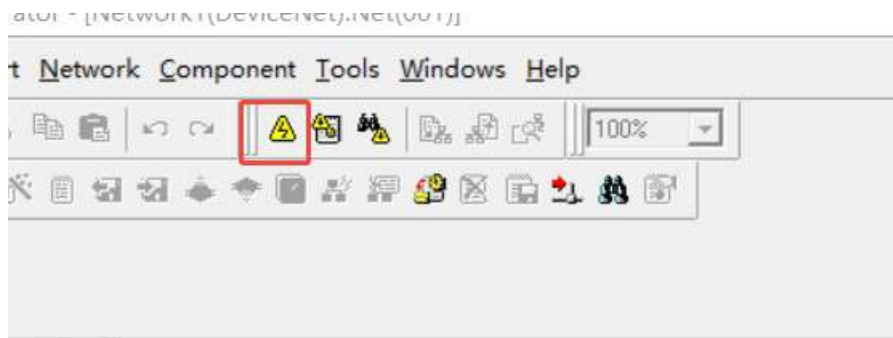

Figure 5-5-5 Automatic scanning
Automatic scanning, click the 'Online Work' button, double-click the DeviceNet [CJ1W-DRM21] network (-), node (1), unit (0), and set the network name, then confirm the transfer as shown in Figure 5-5-5. Double-click DN-HH00-C0NN to check if the Omron PLC can detect the DN-HH00-C0NN slave station.